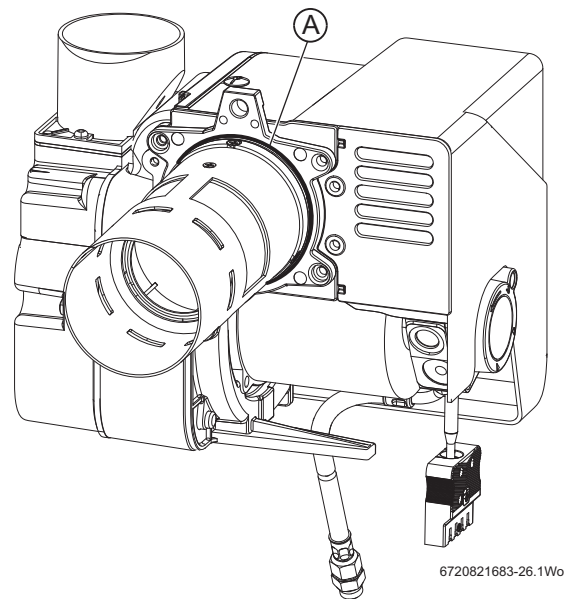

Fig. 41 12/18 Burner O-ring seal shown
- ▶ Always check that the O-ring seal (Fig. 41 item A) is in good condition before fitting the burner. Replace the O-ring seal if defective.